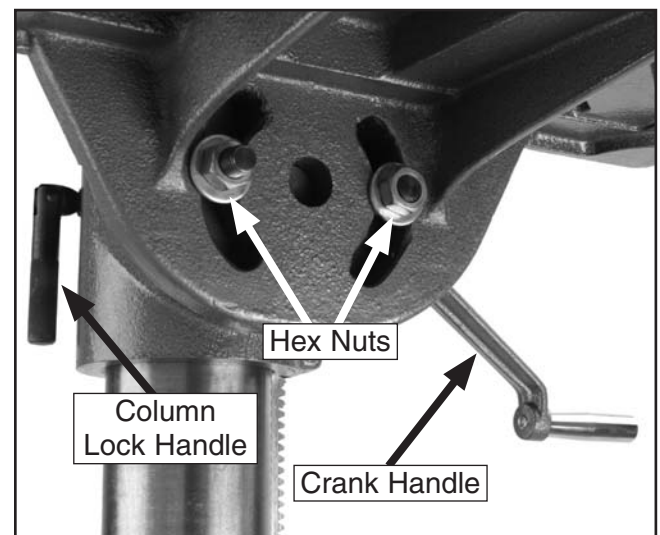

Figure 31. Table adjustment controls.
The table can be raised and lowered, and tilted 90° left or right. Table adjustment controls are shown in **Figure 31**.
1. Loosen the hex nuts shown in **Figure 31** and tilt the table to the desired angle.